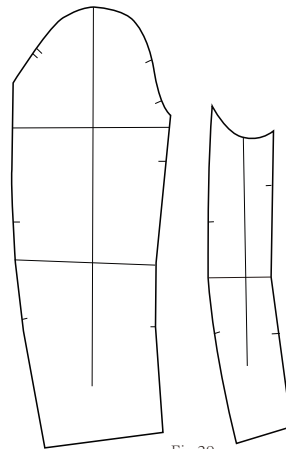

Fig.29
- I copy the up and bottom sleeve pattern out. (Fig.29)